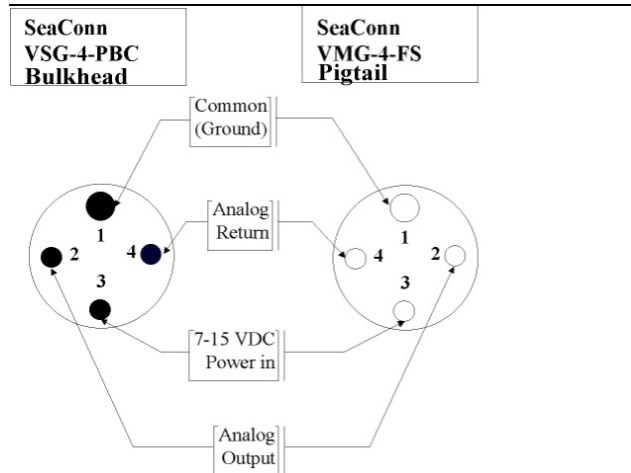

Figure 4. C-Star connectors
- Apply 7–15 volts DC to the instrument to provide power to the LED and electronics. Ensure that positive voltage is applied to Pin 3, and common or ground is applied to Pin 1 (the large socket in the bulkhead connector). See Figure 4 for the pinouts of C-Star and the supplied pigtail. A 9-volt transistor radio battery makes a good power supply for bench testing. With the proper voltage applied to Pin 1 and Pin 3, the LED should illuminate. This light is easily seen by placing a white card such as the back side of a business card into the beam path.
The analog C-Star has four electrical connections, and uses a four-pin SeaCon bulkhead connector. The pinout for this connector is shown in Figure 4. Note that the pinout is compatible with the WET Labs WET Star Miniature Fluorometer, and the same cable can be used for either instrument.